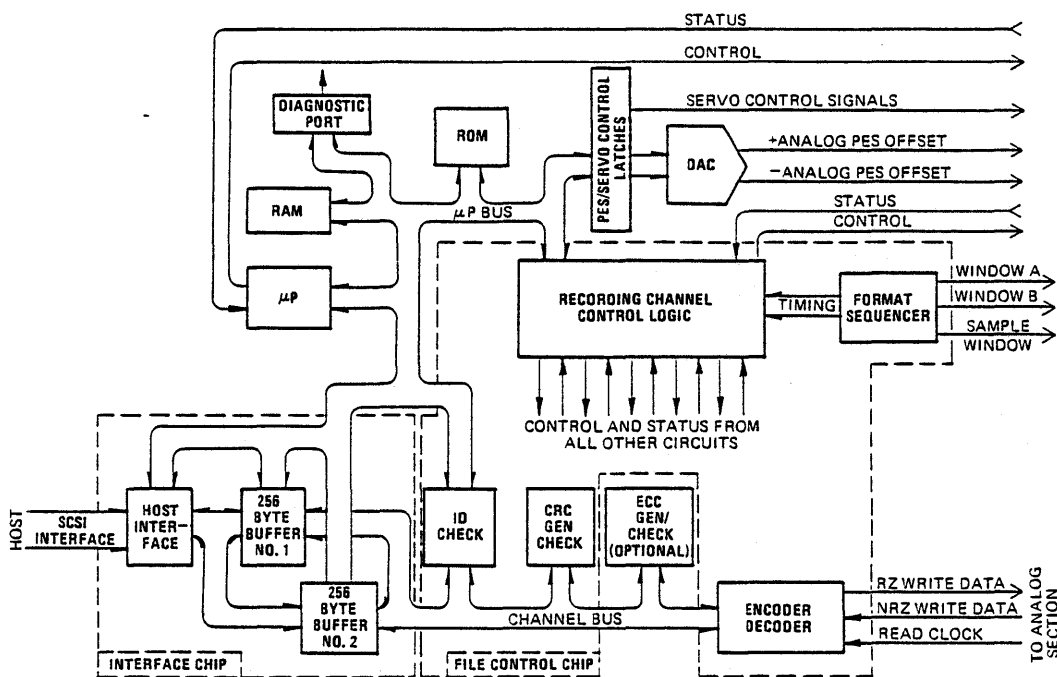

Figure 2-4. Block Diagram of the Subsystem Digital Functions
Before any read or write operation, the ID from each sector on the current track is compared with that of the target sector. When the IDs match, the microprocessor sets up the hardware for the desired operation (Figure 2-4). During a read operation, serial-clocked information is passed through a deserializer and decoder to decipher the run length limited code (RLLC). A cyclic redundancy check (CRC) pattern is built as the information is deserialized and decoded. The pattern (including CRC bytes appended to the data when written) then is checked for errors. If the pattern indicates an error, the data output in the buffer is not transferred, and the operation is retried or an error is reported.
The TTL level write information from the digital circuitry is in return to zero (RZ) form. The preamp IC converts it to nonreturn to zero (NRZI) form and sends it to the read/write head (Figure 2-4).
A Z-80A microprocessor, operating at 4 MHz, controls the synchronization and scheduling of all events on the drive (Figure 2-4). The microprocessor usually does not handle data itself, but controls the hardware that does. Field-replaceable firmware is stored on a programmable read only memory (PROM) or mask-programed read only memory (ROM) and contains the code necessary for diagnostics, command interpretation, seeking, data control, and error reporting.